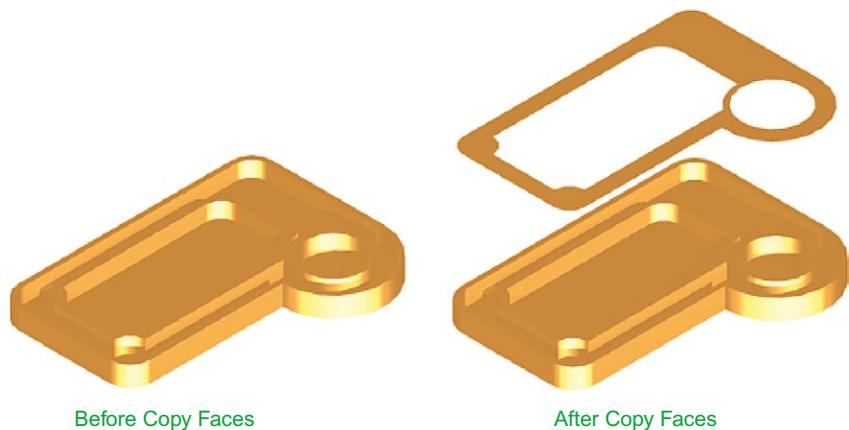

Fig. 18.10 Sixth example – **Copy faces tool**
### Sixth example – Copy faces tool (Fig. 18.10)
3. Add lights and a material to the 3D model and its copied face and render (Fig. 18.10).